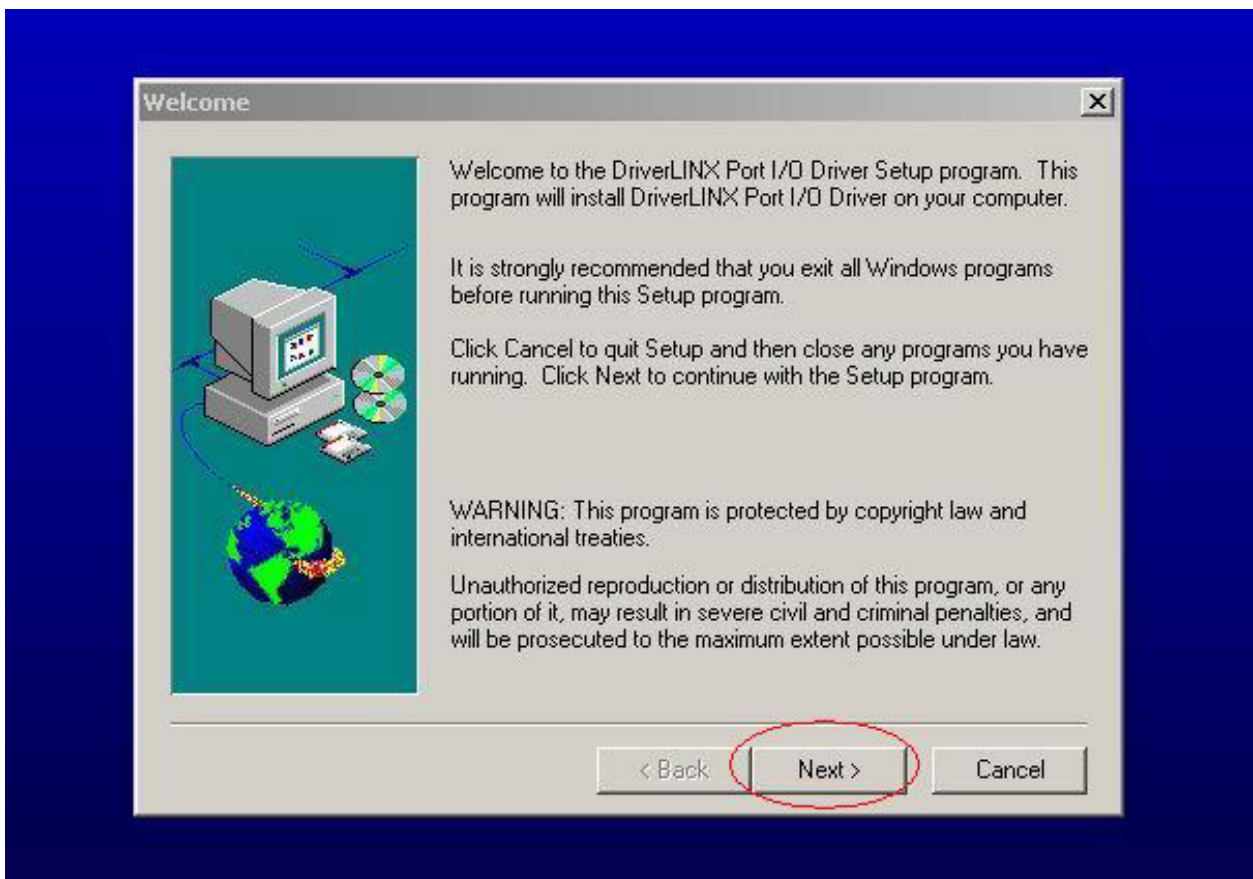

Fig. 0.2
3. Keep on press “ Next “ 4 times to go through the installation processes, see Fig. 0.2